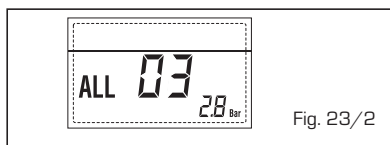

Fig. 23/2
- ANOMALÍA Sonda SANITARIO "ALL 04" (fig. 23/3)